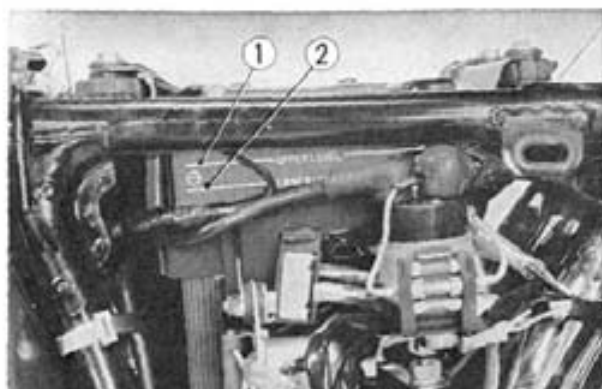

Fig. 19-14 ① Upper level mark
(1) Remove the left cover by pulling free of the rubber mounts and by raising the seat. Observe the electrolyte level from the left side at the motorcycle. If it is necessary add distilled water carefully to bring the electrolyte level of the cells between the lower and upper marks. (Fig. 19-14)